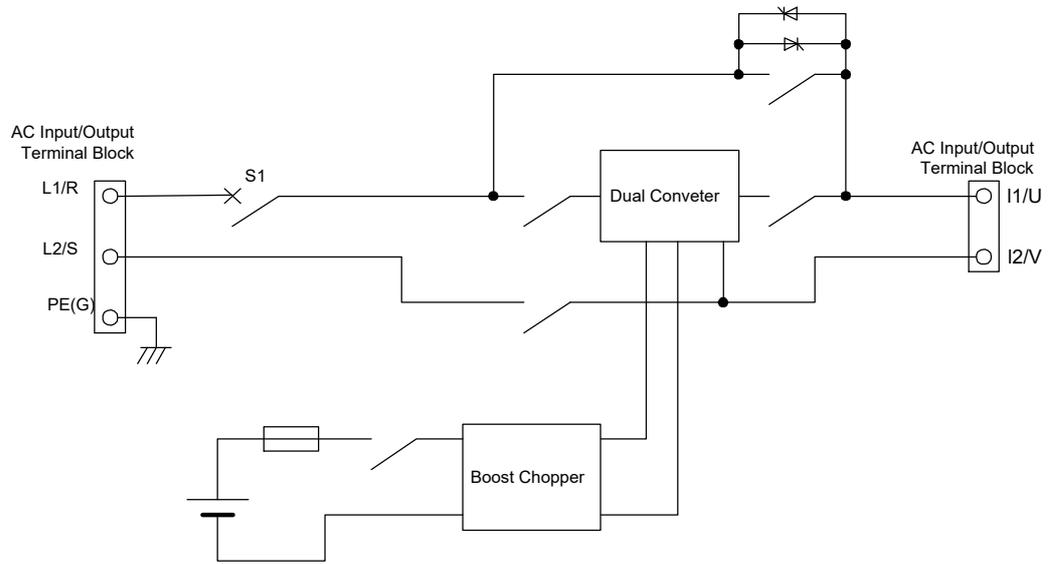

Figure 1 - Circuit diagram of Model M-UPS050AD2B-U
- Circuit diagrams are shown in figures 1 and 2.